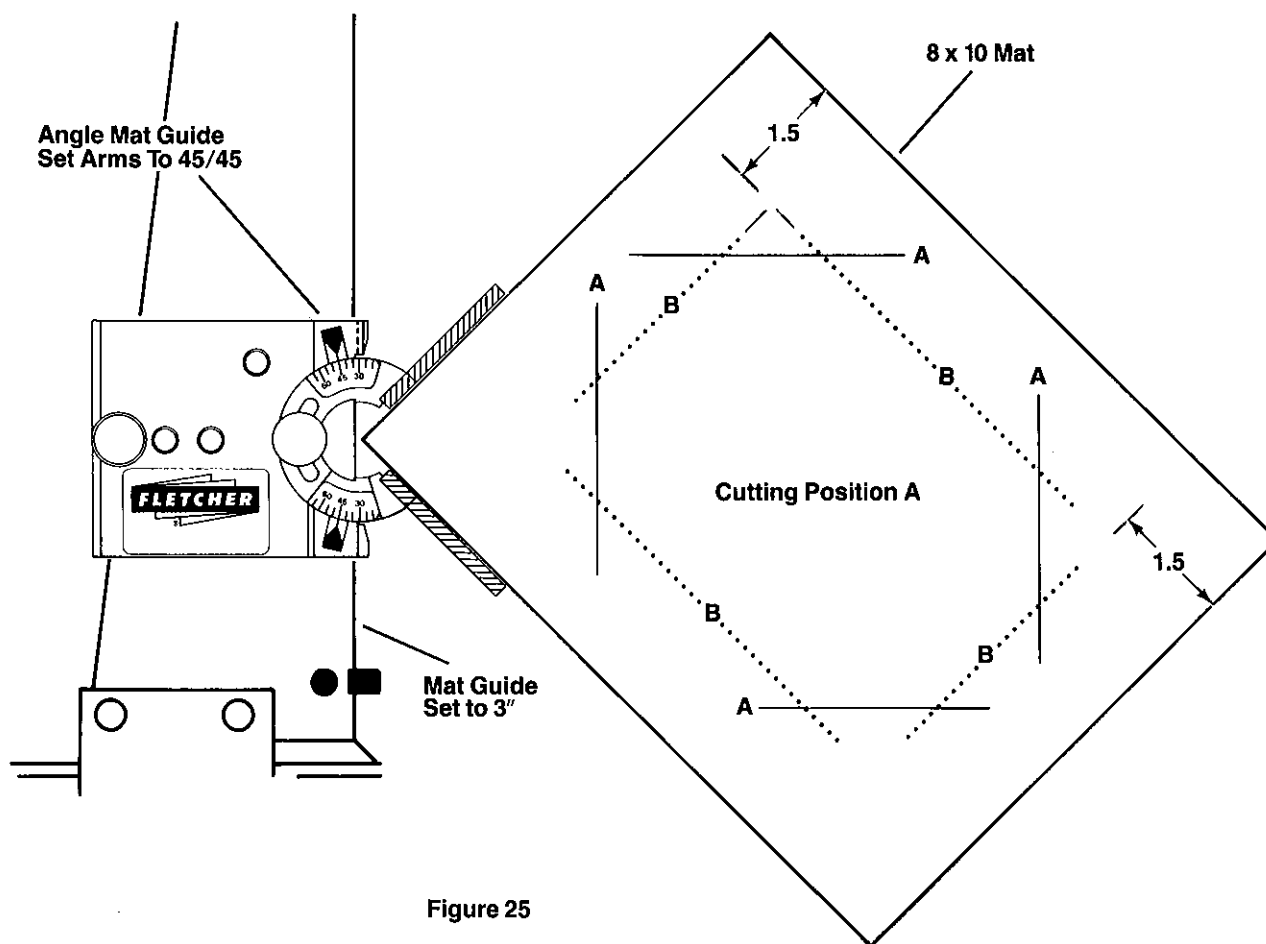

Figure 25
1. Figure 25 illustrates a simple 45 degree corner cut opening in an 8" x 10" mat. Mark pencil lines on the back of the mat in the conventional way with the **Mat Guide** set at  $1\frac{1}{2}"$  as shown by lines labelled B.